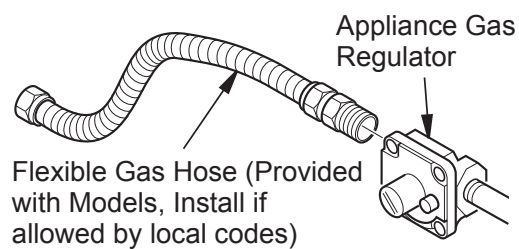

Figure 10 - Attaching Flexible Gas Hose to Appliance Gas Regulator
1. Apply pipe joint sealant lightly to male threads of the 3/8 NPT side of gas fitting elbow (provided) and connect to inlet side of gas control. Remove gas fitting from flexible gas hose (provided) before connecting to elbow (see **Figure 10**).